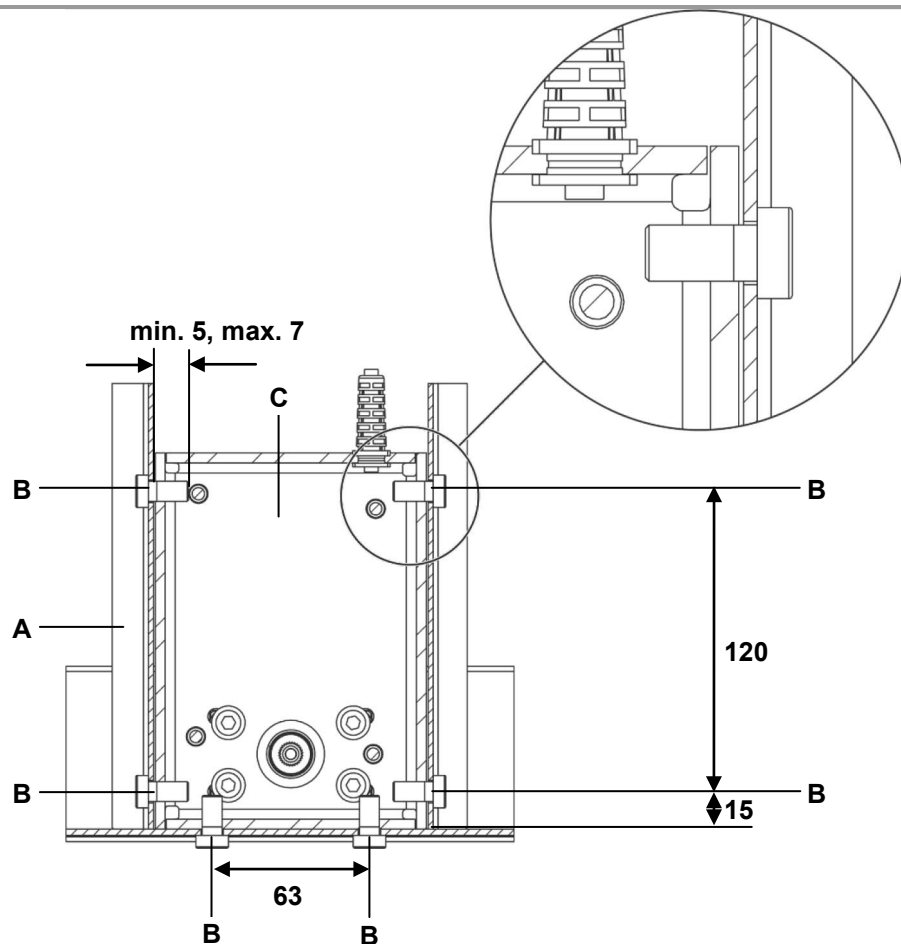
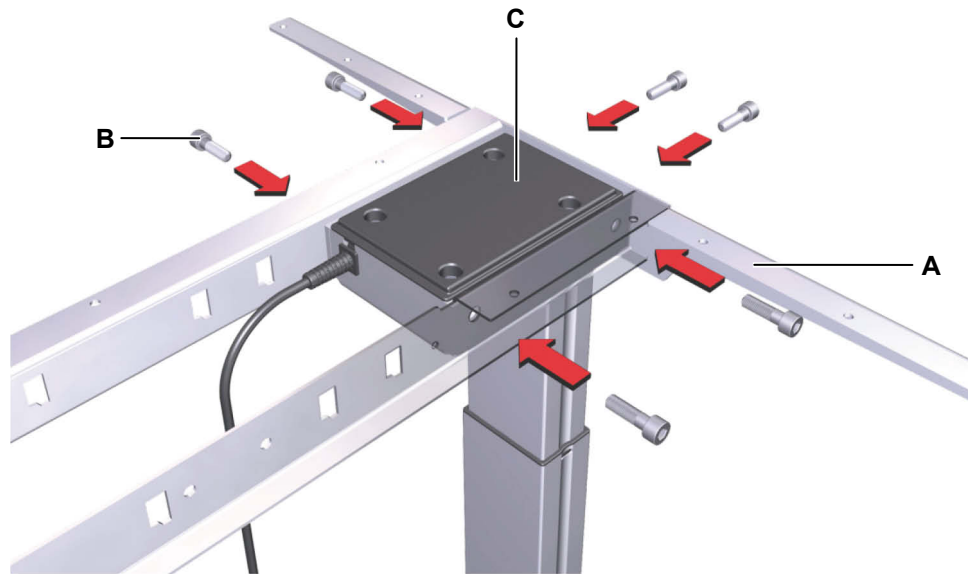

Figure 21 Mounting the table frame (dimensions in mm)
Figure 22 Mounting the table frame
- Use M8 bolts (with strength grade 8.8), as shown in Figure 21. The tightening torque must not exceed 20 Nm.
- 1 Set the table frame so that the holes are over the lifting column. Use six screws to attach the table frame to the motor housing of the DD11/DD21 lifting columns, as shown in Figure 22 (maximum tightening torque is 20 Nm). The mounting dimensions are shown in Figure 21.